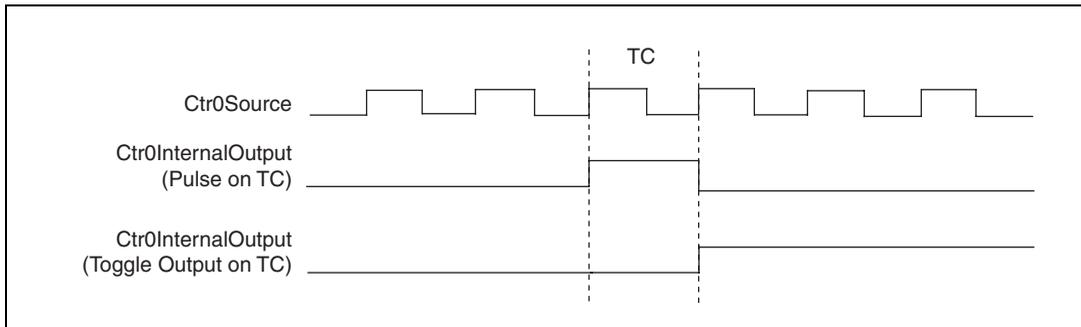

Figure 7-5. Ctr0InternalOutput Signal Behavior
The Counter 0 Internal Output (Ctr0InternalOutput) signal is the output of Counter 0. This signal reflects the terminal count (TC) of Counter 0. The counter generates a terminal count when its count value rolls over. The two software-selectable output options are pulse on TC and toggle output polarity on TC. The output polarity is software-selectable for both options. Figure 7-5 shows the behavior of the Ctr0InternalOutput signal.